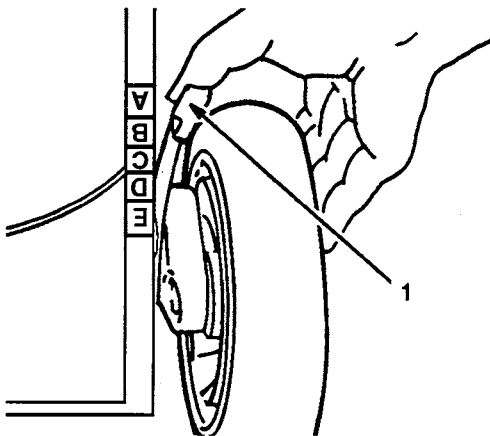

Figure 4
3. Squeeze the mower's height-of-cut lever toward the wheel and move it to the corresponding color/letter on the mower housing (Fig. 4). For easier adjustment, lift the housing up so the wheel is off the ground. **Do not put your fingers under the housing when lifting.** Ensure the pin on the height-of-cut lever engages the slot in the housing. Adjust all wheels to the same color/letter setting.